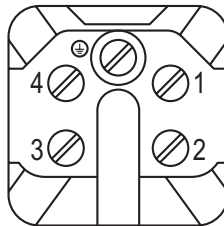

Fig. 10
5. Connect the terminals in the contact block 22 (Fig. 10) according to table "Functions" on page 9.